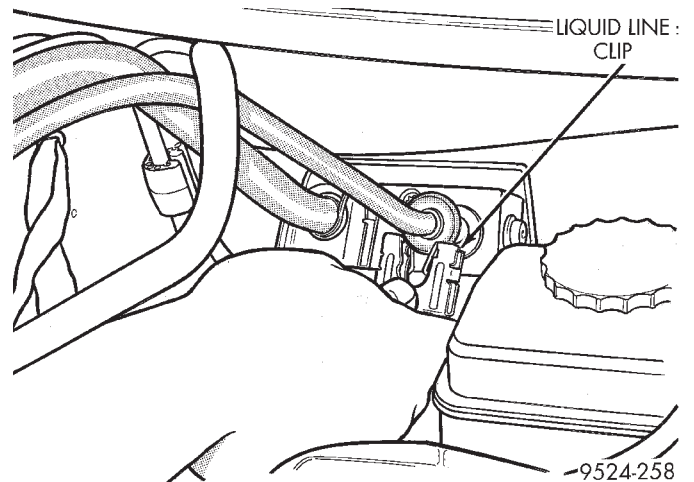
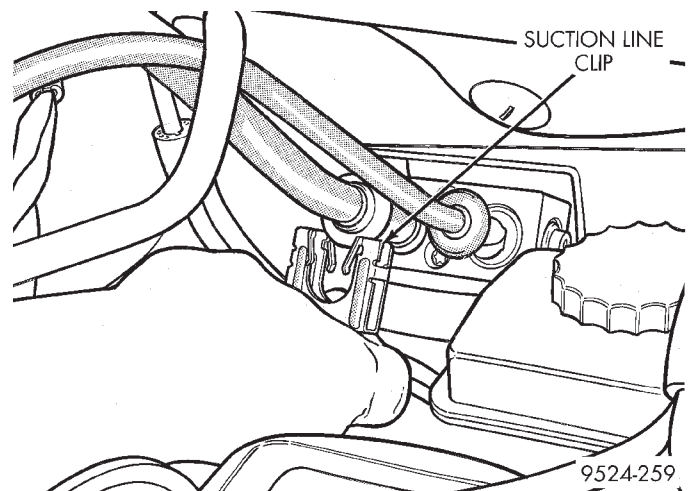

Fig. 44 Liquid Line Clip
Fig. 45 Suction Line Clip
- (1) Remove refrigerant from the A/C system using a refrigerant recovery machine.
- (2) Disconnect clips from expansion valve lines (Fig. 44) and (Fig. 45).